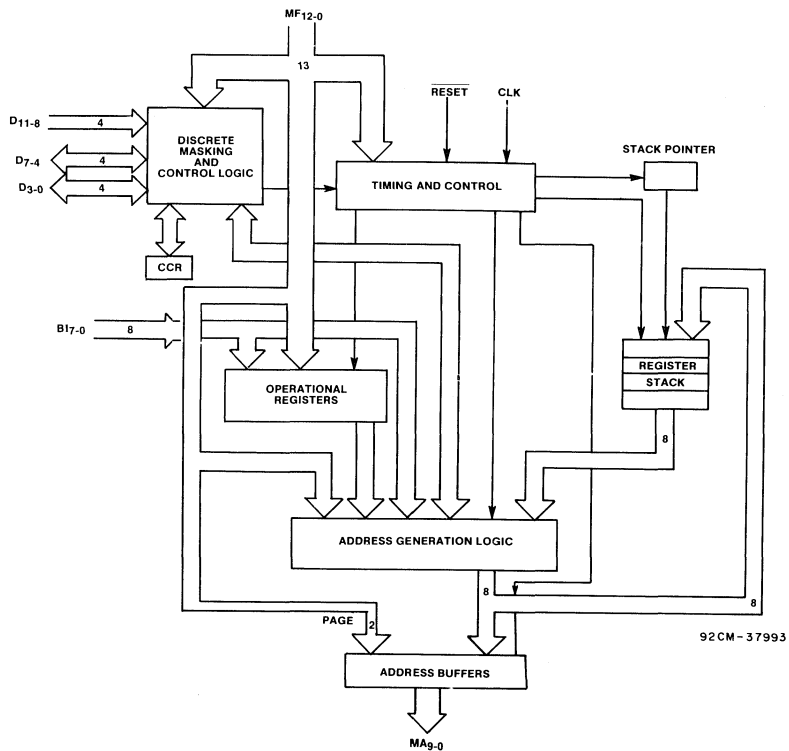

Fig. 1 - Architecture and logic of the microcontroller GP501.
Fig. 1 shows a block diagram of the Emulating Microcontroller (EMC) GP501. This device incorporates into one part many of the subsystems and capabilities required in the control section of a bit-slice CPU. A large number of registers and latches are implemented on the chip; most are under explicit program control. Five operation register (R4-R0) are dedicated to specific functions, such as masking, mapping, or saving common re-entry points. R0 and R1 are pointers to re-entry points that can be given control directly or conditionally. R2 is a pair of 4-bit mapping registers that can be used to transfer execution to one of sixteen micromemory locations, depending on other conditions. R4 is an address-masking register. R3 is a maskable address register that can be loaded from microcode or from the external bus.
Stack Registers/Program Counter - The currently active stack register, the one of four pointed to by the stack pointer, is the program counter (PC), Fig. 1. Normally, the PC is adjusted during the current microcycle so that it points to the next address at all times. The four stack registers permit three levels of microcode subroutines. The stack pointer wraps around in either direction. User control of the 2-bit stack pointer is only via the reset input and through pushing or popping the stack.